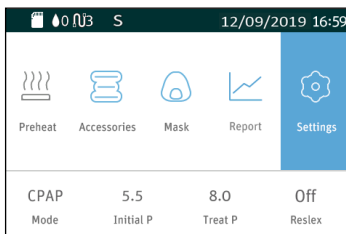

Fig. 16-2
**Note:** The above interface is only applicable to devices that do not have the modes of SmartC or SmartA activated. If SmartC or SmartA is enabled, the symbol **S** will appear in the status bar at the top of the screen, as shown in Fig. 16-2.
**Note:** As the humidity is turned off, the Preheat Function Icon  will turn gray, as shown in Fig. 16-2.